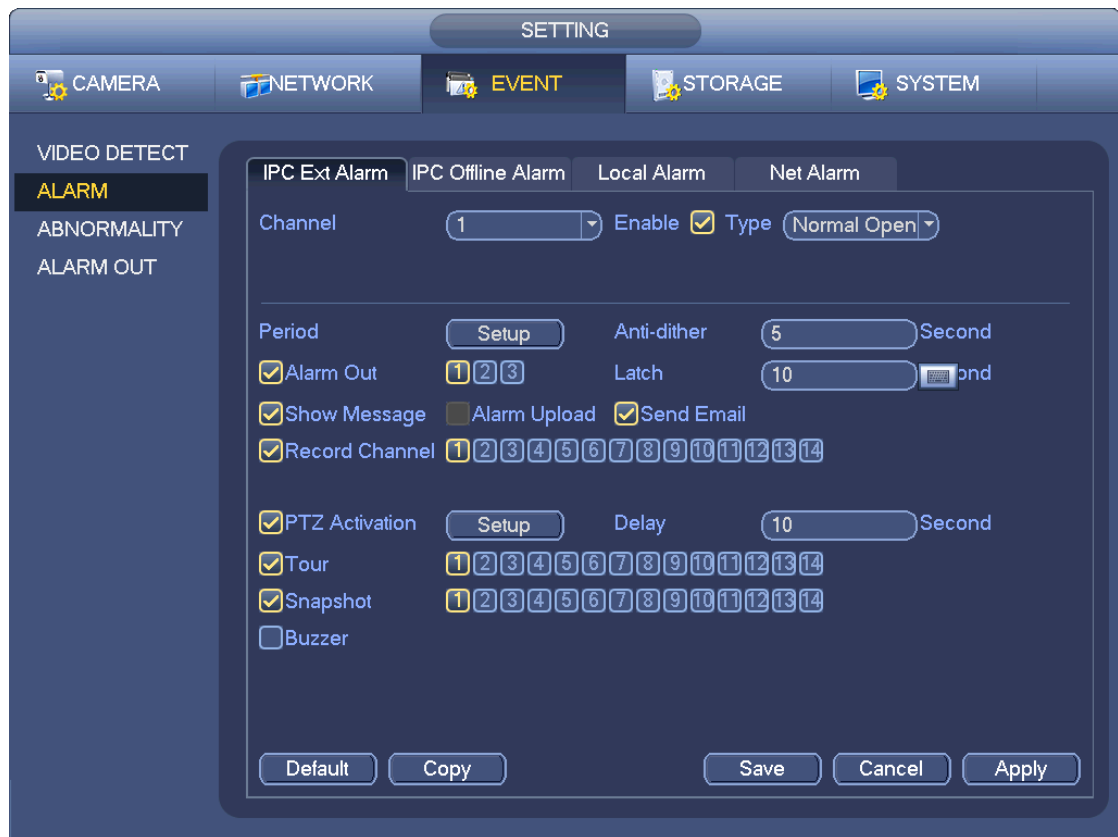

Figure 4-73
In the main menu, from Setting->Event-> Alarm, you can see alarm setup interface. See Figure 4-73.
- c) From Main menu->Setting->Event->Alarm, you can go to Figure 4-73 to set alarm parameter and enable snapshot function.